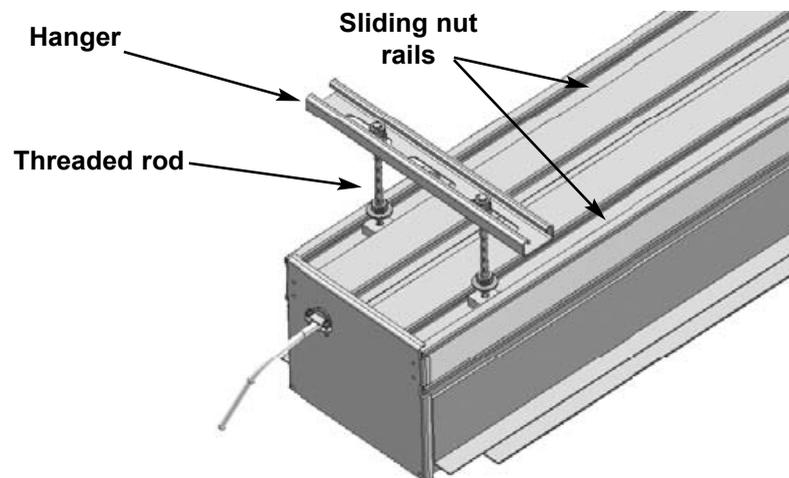

Figure 6: Threaded rod mounting option
- ▶ Threaded rods, using the built-in sliding nut rail. The installer supplies the mounting hardware, including threaded rods and hangers. Refer to Figure 6.